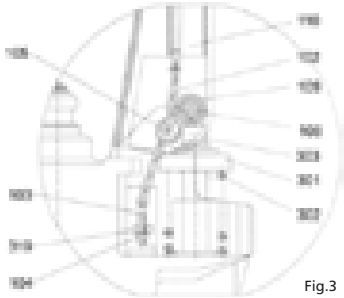

Fig.3
- Let control handle to the 'LOWER' position, then pass the adjusting nut, adjusting bolt and chain through the hole of axle with your hand (See fig. 3).